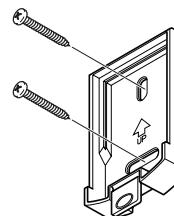

Figure 3
- Place the mounting plate against the mounting surface and ensure the mounting plate is level. Mark the hole locations (see Figure 3).